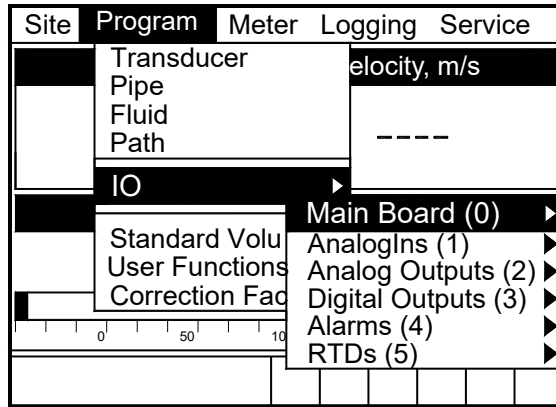

Figure 15: Input/Output Option Window
The Analog Input option enables you to specify parameters for general purpose inputs. To enter the Inputs option, scroll to the Input/Output (IO) entry on the Program Menu and press [ENTER]. The screen appears similar to Figure 15 below. To step through each parameter, press the [▼] key. Refer to the *Program Menu Map*, Figure on page 29.